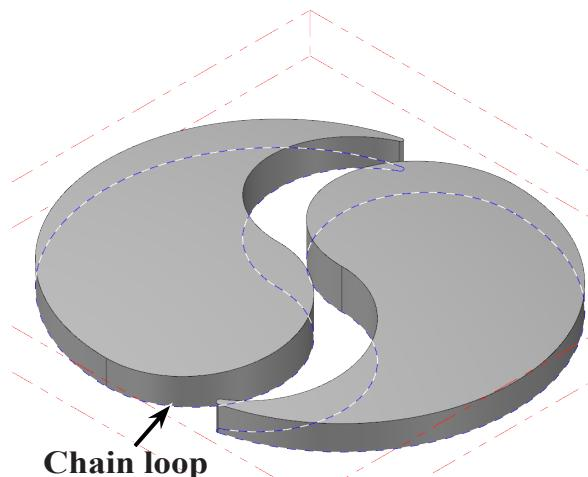

Fig. 83
Step 6. Click **bottom edge** of left Lid solid, Fig. 82. If the wrong edge is selected, click **Other face** in Pick Reference Face dialog box, Fig. 83. Click OK  in Pick Reference Face dialog box.